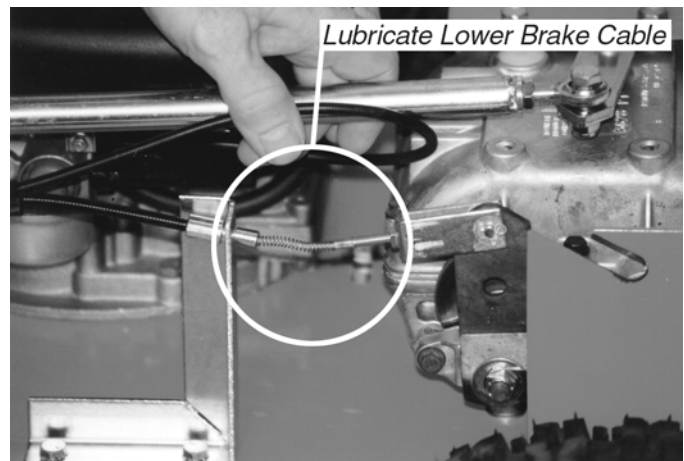

Figure 25
4. Lubricate the lower brake cable with FLUID FILM™ or similar lubricant (Figure 25). The lower brake cable is located on the right side of the machine just behind the front wheel.